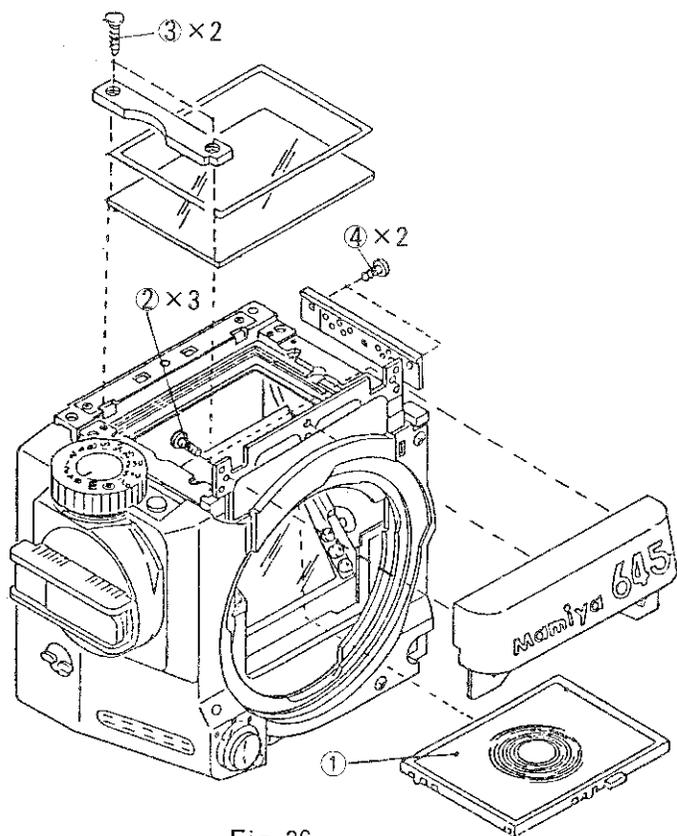

Fig. 36
2. Disassemble this unit in the numerical order illustrated above. (Fig. 36 - 38)